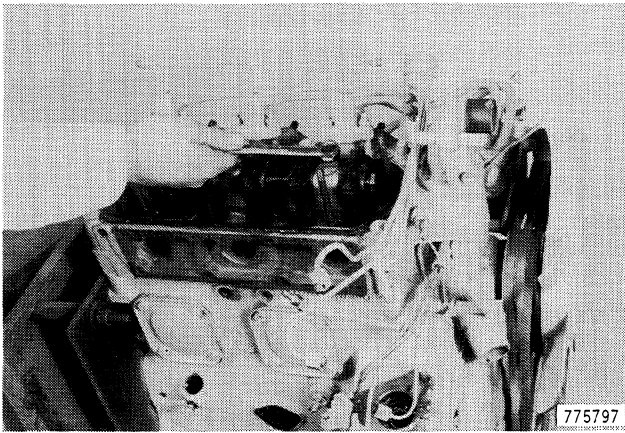

Figure 51
26. Remove the cap screws that mount the rocker arm assembly, Figure 51.